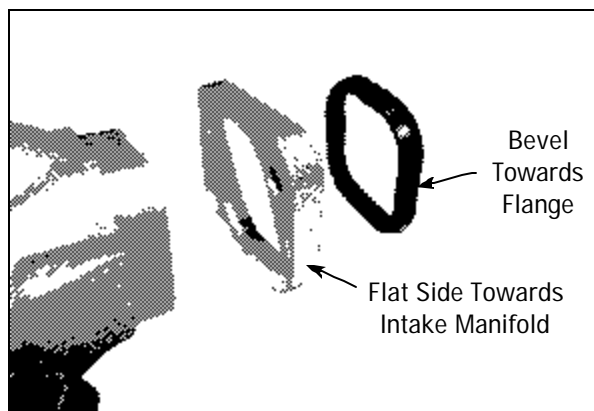

Figure 2 - Manifold Flange Assembly Order
5. Install (2) 5/16-18 X 1" NONPLATED ferry head bolts and (2) 5/16 washers into the lower manifold mounting holes of the front and rear cylinders. Only thread in 2-3 threads. A small amount of grease can be used to hold the washer against the head of the bolt for easier manifold installation.
6. Note that the flanges are marked front and rear. Place flanges on manifold with the tapered side facing out (toward the head) and the slotted bolt holes to the rear of the manifold (See Fig. 2).
7. Lubricate grommets with a lightweight oil such as fork oil or brake assembly lube (not brake fluid). Push grommets onto manifold as far as they will go, with the tapered side facing the manifold (See Fig. 2).